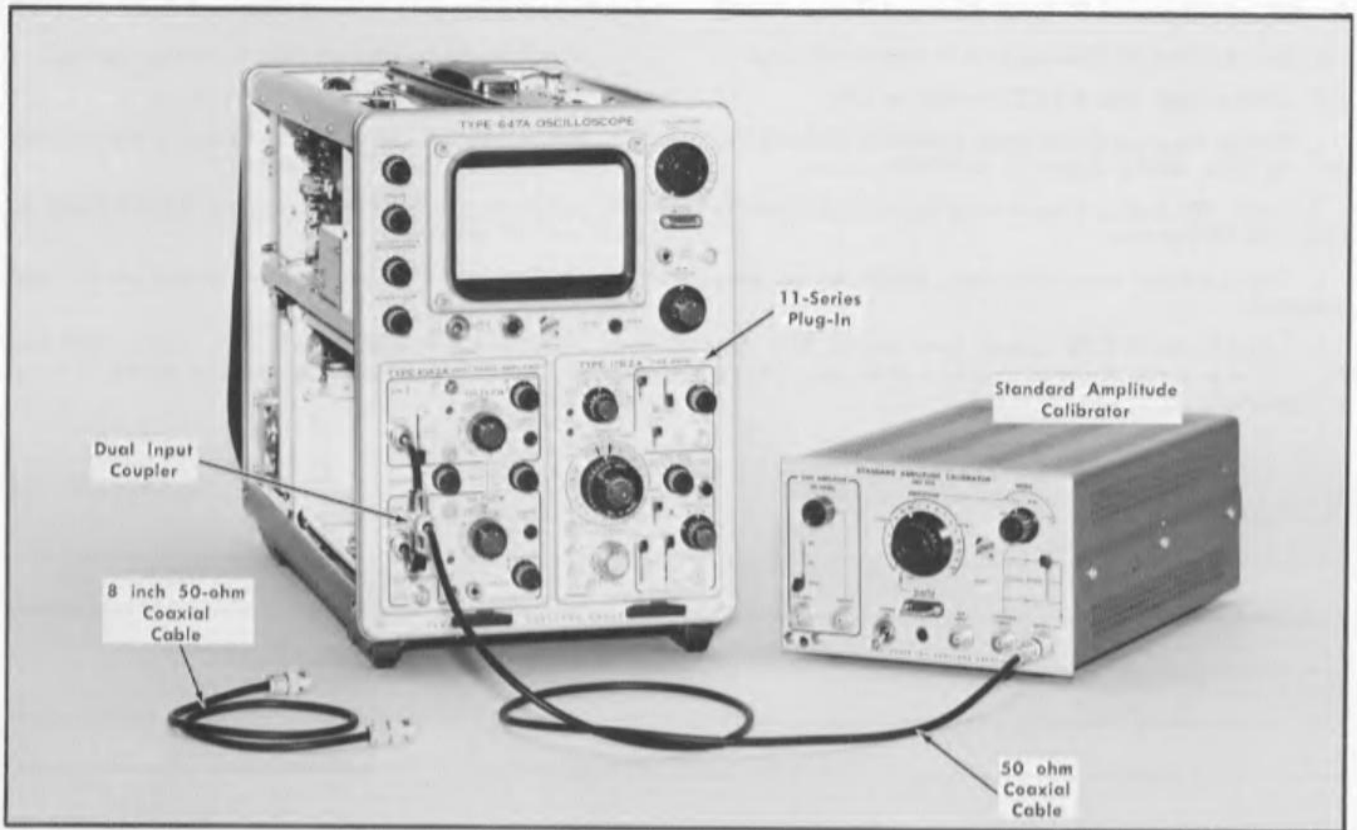

Fig. 6-5. Initial test equipment setup for steps 7 through 18.
- b. Test equipment setup is shown in Fig. 6-5.